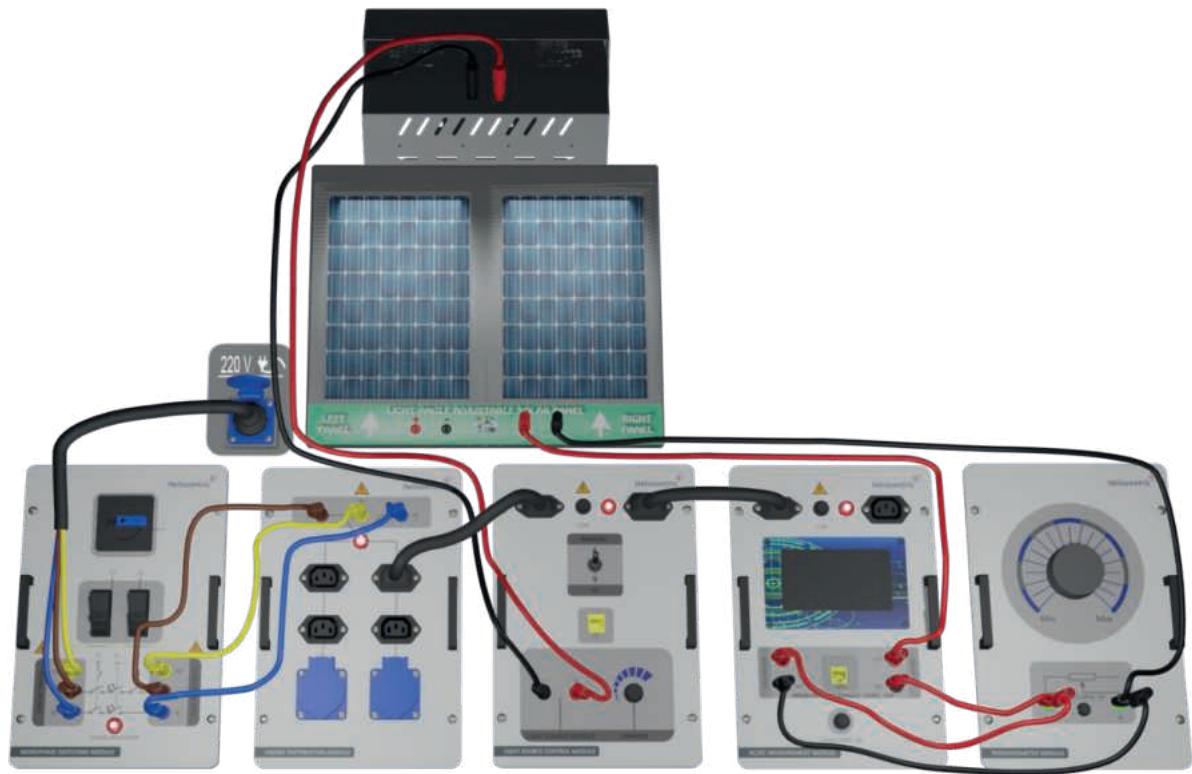

Figure-37. Installation Image of Examination of the Photovoltaic Panel's Loaded Outputs Depending on the Sun's In-Day Movement
1. Set up the connection as specified in Figure-37. Ensure a constant level of light in the laboratory by creating an average scenario. Any alterations to the positions of the lamps or curtains will have an impact on the experimental outcomes.